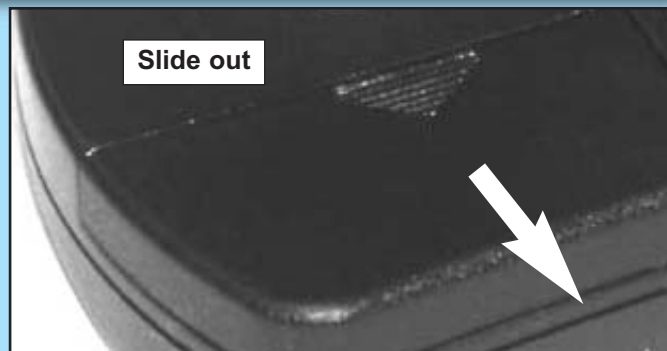

FIG. 8-1 Open battery cover.
- To open, gently push straight out on battery cover lock tab as shown. (Fig. 8-1).